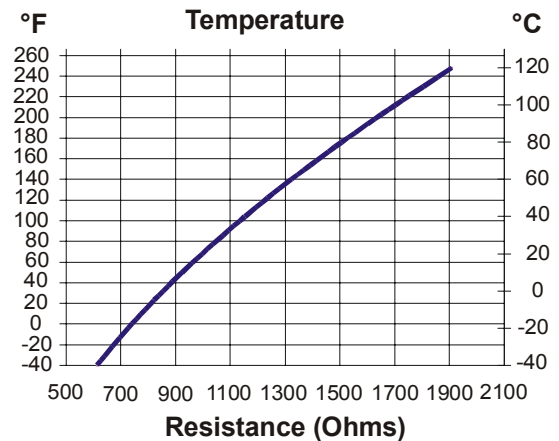

Figure 8: Temperature vs. Resistance Chart for the A99B Series Sensor
- d. Refer to Figure 8 to determine the optimal resistance for the measured temperature.
- f. If the sensor's resistance conforms to the chart in Figure 8, reconnect the sensor to the control.